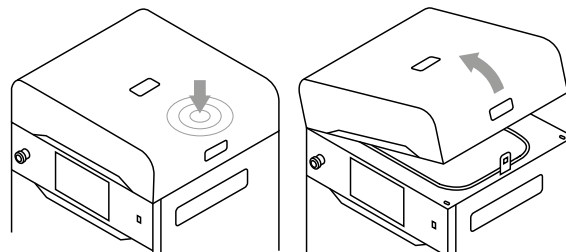

Fig. 2.3 Lifting the printer lid.
2. Push on the lid and pull it up using the lid handle (fig. 2.3).